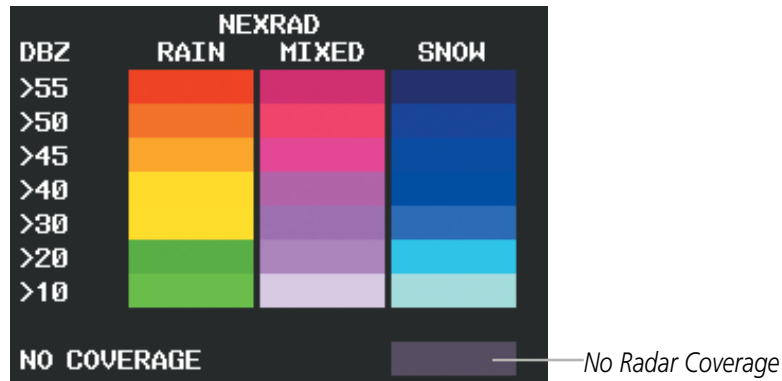

Figure 6-11 NEXRAD Legend
- 1) Select the **MAP** Softkey. This step is not applicable on the Weather Data Link (XM) Page.
Composite data from all the NEXRAD radar sites in the United States is shown. This data is composed of the maximum reflectivity from the individual radar sweeps. The display of the information is color-coded to indicate the weather severity level. All weather product legends can be viewed on the Weather Data Link (XM) Page. For the NEXRAD legend (Figure 6-11), select the **LEGEND** Softkey when NEXRAD is selected for display.